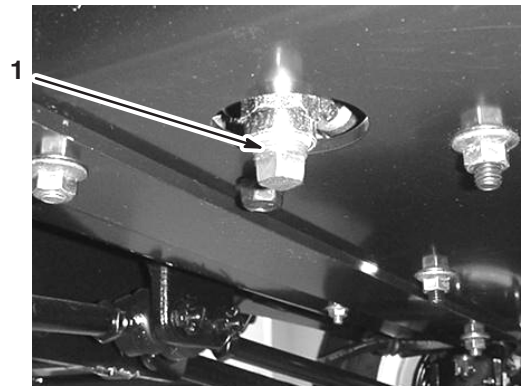

Figure 31
5. Remove the drain plug (Fig. 31).